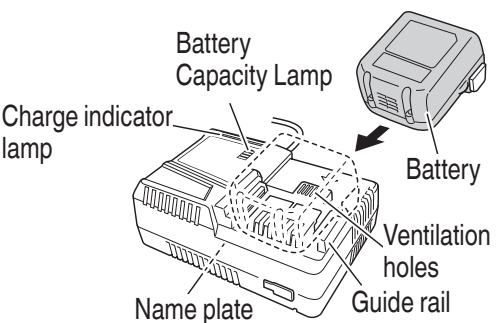

Fig. 1
1. Connect the charger's power cord to the receptacle. **(Fig. 1)**
Firmly insert the battery into the charger, as shown in **Fig. 1**.